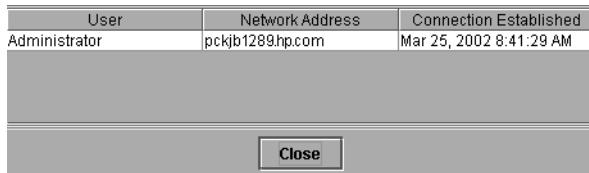

Figure 10: User Sessions dialog box
- **User** — The name of the current user (in Figure 10, Administrator).